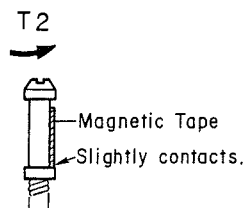

Fig. 6.31 T2 Height Adjustment
2. While repeating Cue mode and Review mode alternately for approx. five seconds each, visually check the tape travelling on T2, and adjust T2 with a Guide Adjuster so that the tape slightly comes in contact with the lower flange of T2 as shown in Fig. 6.31.